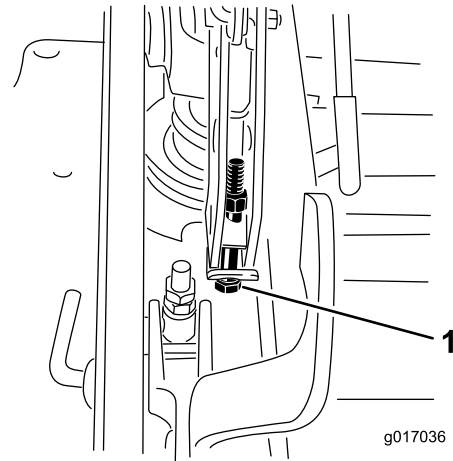

Figure 117
12. If the deck is too low, tighten the single-point-adjustment bolt by rotating it clockwise. If the deck is too high, loosen the single-point-adjustment bolt by rotating it counterclockwise (Figure 117).